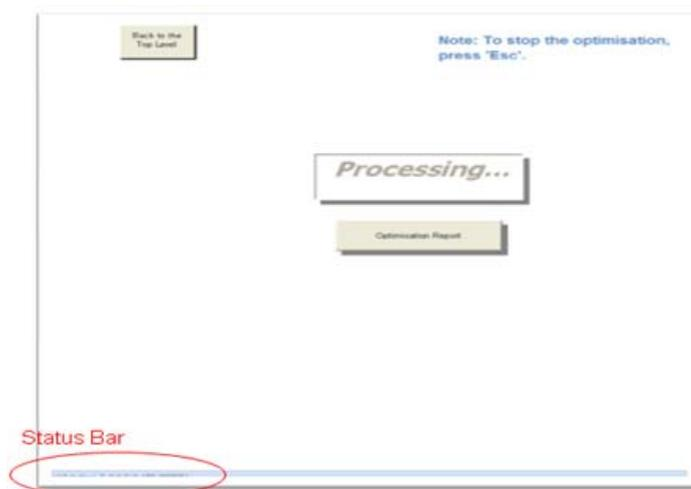

Figure 7 The view during optimisation
- The Excel status bar shows progress during optimisation (Figure 7). This may take some time. During the optimisation, the user can terminate the procedure by pressing 'Esc'.